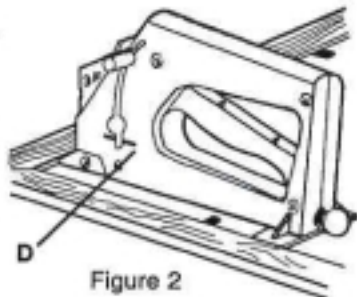

Figure 2
2. Insert the points into the slot in the magazine (C) and release the follower knob so it can apply pressure to the stack of points. Figure 2.
3. Reload points when the follower knob reaches the RELOAD position (D). There are 100 points per stack.